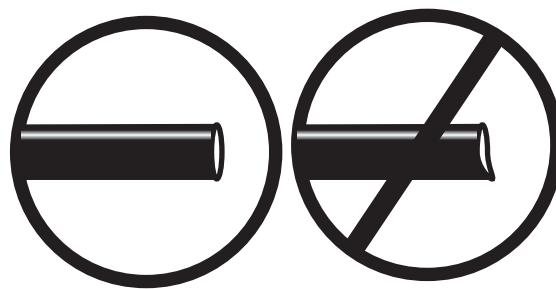

fig. 2
WHEN CUTTING OR TRIMMING THE AIR LINE, USE A HOSE CUTTER (GG), A RAZOR BLADE OR A SHARP KNIFE. A CLEAN, SQUARE CUT WILL ENSURE AGAINST LEAKS. DO NOT USE WIRE CUTTERS OR SCISSORS TO CUT THE AIR LINE. THESE TOOLS MAY FLATTEN OR CRIMP THE AIR LINE, CAUSING IT TO LEAK (SEE FIG. 2).
1. Run a length of air line (G) from the air fitting on the compressor to the end of the switch
- a. Check the air line connection by deflating the spring and removing the line by pulling the collar against the fitting and pulling firmly on the air line. Trim 1” off the end of the air line. Be sure the cut is clean and square (see fig. 2). Reinsert the air line into the push-to-connect fitting.